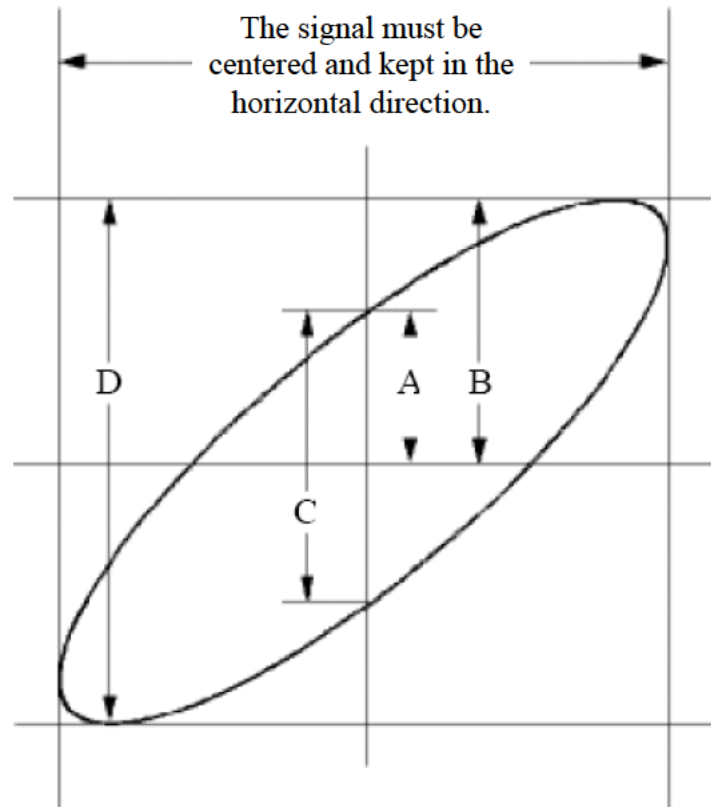

Figure 9-6 Lissajous Graph
- (1) Set the probe menu attenuation coefficient for **10X** and that of the switch in the probe for **10X** (see "*How to Set the Probe Attenuation Coefficient*" on P12).
- (2) Connect the probe of channel 1 to the input of the network and that of Channel 2 to the output of the network.
- (3) Push the **Autoset** button, with the oscilloscope turning on the signals of the two channels and displaying them in the screen.
- (4) Turn the **Vertical Scale** knob, making the amplitudes of two signals equal in the rough.
- (5) Push the **Display** button and recall the Display menu.
- (6) Select **XY Mode** in the bottom menu. Select **Enable** as **ON** in the right menu. The oscilloscope will display the input and terminal characteristics of the network in the Lissajous graph form.
- (7) Turn the **Vertical Scale** and **Vertical Position** knobs, optimizing the waveform.
- (8) With the elliptical oscillogram method adopted, observe and calculate the phase difference (see *Figure 9-6*).